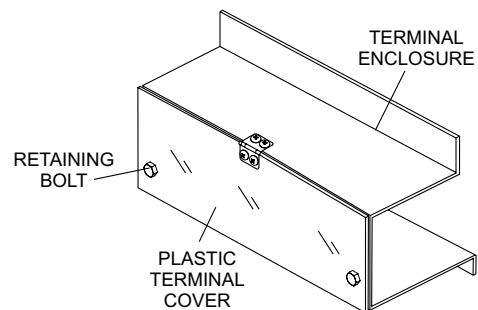

Figure 10. Plastic Face Plate (Output Terminal Lugs)
The **Output Terminal Lugs** are protected by a plastic face plate cover (Figure 10). Un-screw the securing bolts (2) and raise the plastic face plate to gain access to the output terminal lugs.